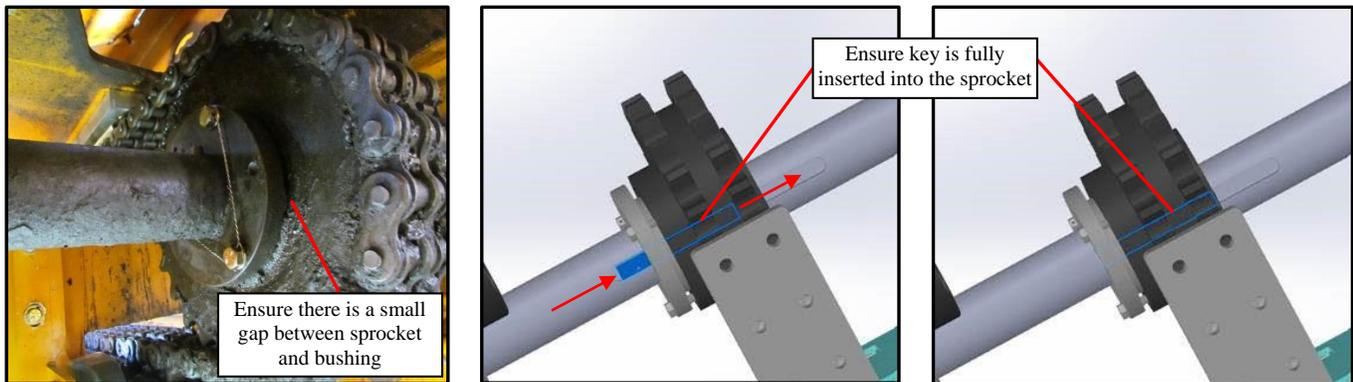

Figure 2: Sprocket assembly properly assembled, torqued and safety-wired, with key fully inserted into sprocket
- Screws tightened and torqued to the proper spec leaves a small gap between the sprocket and the flange of the bushing that prevents the two from coming into contact with one another (Figure 2).